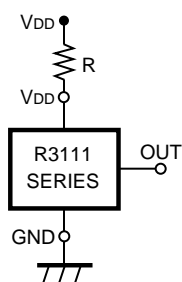

Figure 9
1. In Figure 9, When R3111xxx1C is used, and if an impedance is connected in between Voltage Supplier and the V_{DD} Pin of R3111xxx1C Series, the operation might be unstable by through-type current at detection.
When R3111xxx1A is used in Figure 9, if the value of R is set excessively large, voltage drop may occur caused by supply current of IC itself and Detector threshold may vary.